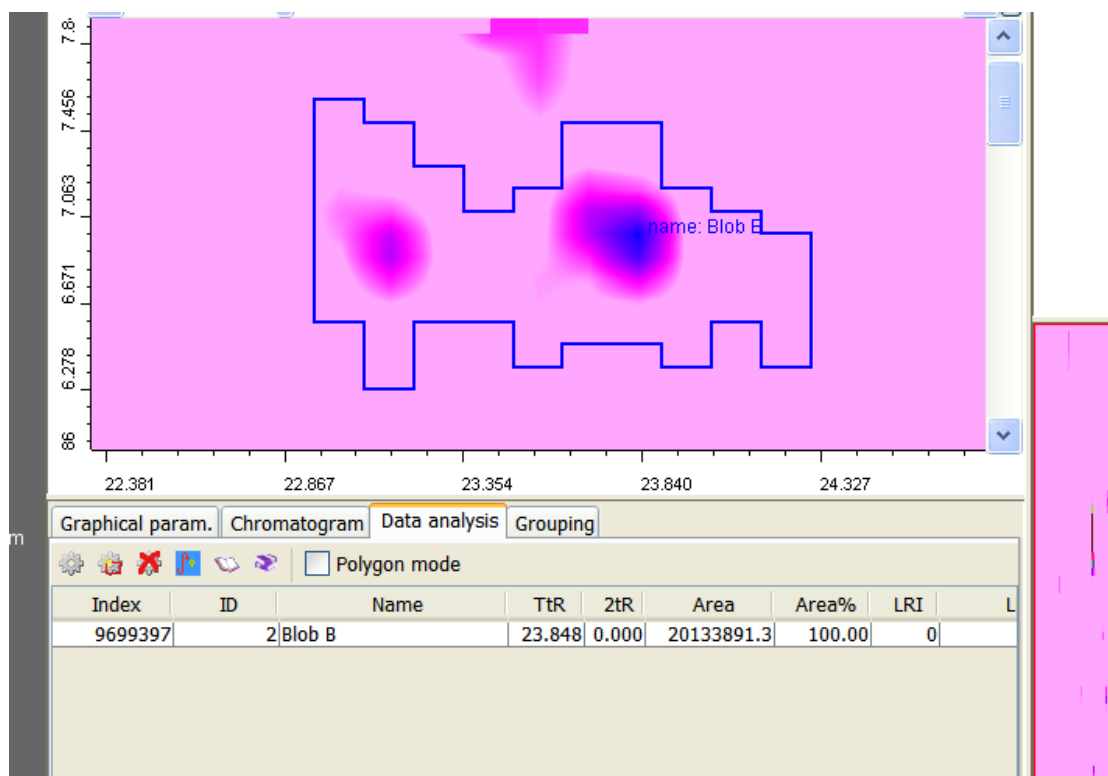

Figure 12.10: Merging Blobs: the results
7. The result of the merging operation will be immediately displayed, both on the Map View and on the Data Analysis table, as shown in Figure 12.10.
7. Check the difference between Figures 12.10 (before adding the peak) and 12.11 (after adding the peak): the Blob in the second Figure is slightly larger, since it includes a new Peak on the right side. Also the area is larger.
The sample procedure is the continuation of the one described in previous section: it will be used to delete the Peak that had been just added to the Blob, restoring the situation at the end of section 12.1.4, Figure 12.10.
6. Verify that the Blob features are exactly the same shown in Figure 12.10. In other words, the operation of Removing the Peak has canceled the operation of Adding a Peak.